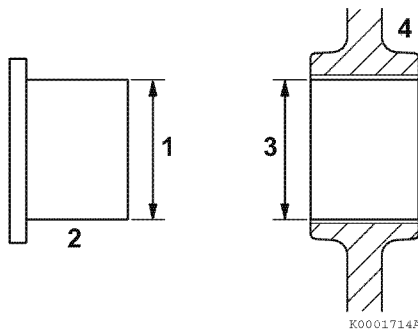

Figure 6-79
1. Measure the outside diameter (**Figure 6-79, (1)**) of the idler gear shaft (**Figure 6-79, (2)**). See *Idler Gear Shaft and Bushing on page 6-6 for specifications.*
2. Measure the inside diameter (**Figure 6-79, (3)**) of the idler gear bushing (**Figure 6-79, (4)**). See *Idler Gear Shaft and Bushing on page 6-6 for specifications.*